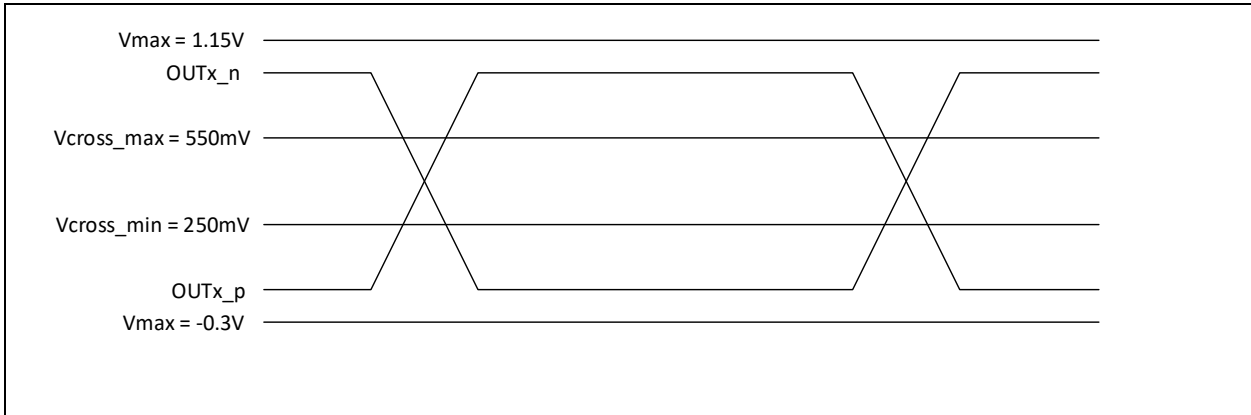

Figure 14. Single-Ended Measurement Points for Absolute Cross Point and Swing
(4) Measured at crossing point where the instantaneous voltage value of the rising edge of CK equals the falling edge of CK# . See Figure 14
(5) Refers to the total variation from the lowest crossing point to the highest, regardless of which edge is crossing. Refers to all crossing points for this measurement. See Figure 14.
(6) This requirement, from PCI Express Base Specification, Revision 4.0 is applicable only to clock generators and not to buffers. A clock buffer is a transparent device whose output clock period follows the input clock period.
(7) Defined as the maximum instantaneous voltage including overshoot. See Figure 14.
(8) Defined as the minimum instantaneous voltage including undershoot. See Figure 14.
(4) Measured at crossing point where the instantaneous voltage value of the rising edge of CK equals the falling edge of CK#. See Figure 14